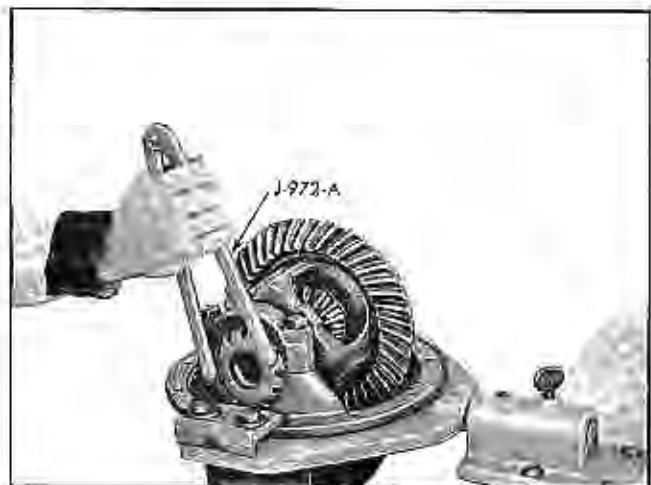

Fig. 4-34 Backing Right Adjusting Nut with J-972-A
2. Back off right hand adjusting nut (Fig. 4-34) one notch and tighten left hand adjusting nut one notch (each notch of adjustment will change backlash .002"-.004"), depending on ratio.